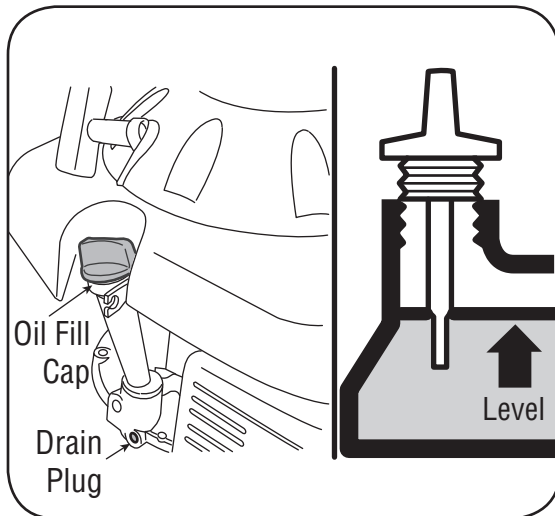

Figure 5
1. Remove oil fill cap and drain oil by either removing drain plug or turning mower on its side (air cleaner side up) and allowing oil to drain into a suitable container. See Figure 5.
3. Refill with the recommended oil (see Operation section) and check the oil level. See Figure 5.